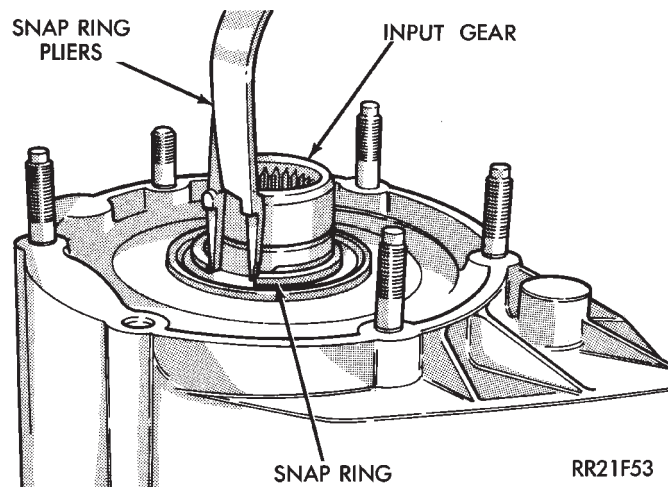
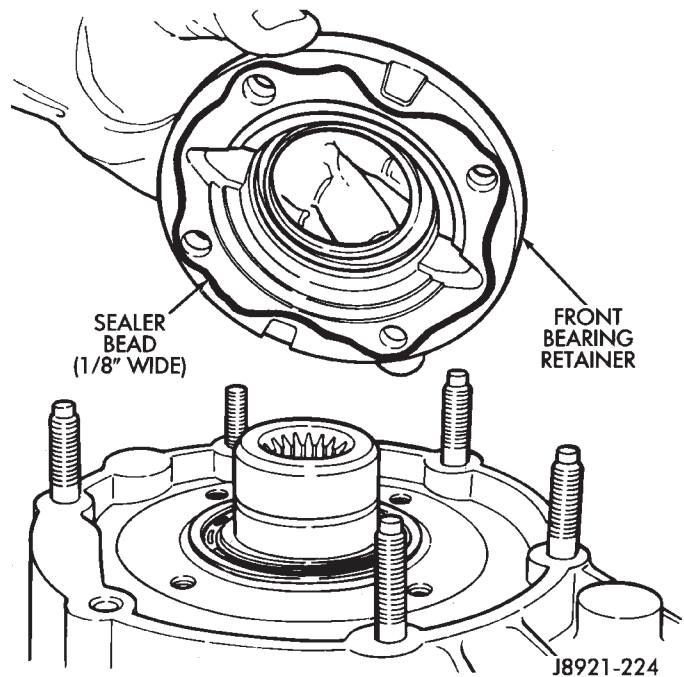

Fig. 37 Installing Input Gear Snap Ring
Fig. 38 Applying Sealer To Front Bearing Retainer
- (17) Install input gear snap ring (Fig. 37).
- (18) Install new oil seal in front bearing retainer.
- (19) Apply 3 mm (1/8 in.) wide bead of Mopar silicone sealer to front bearing retainer seal surface (Fig. 38).